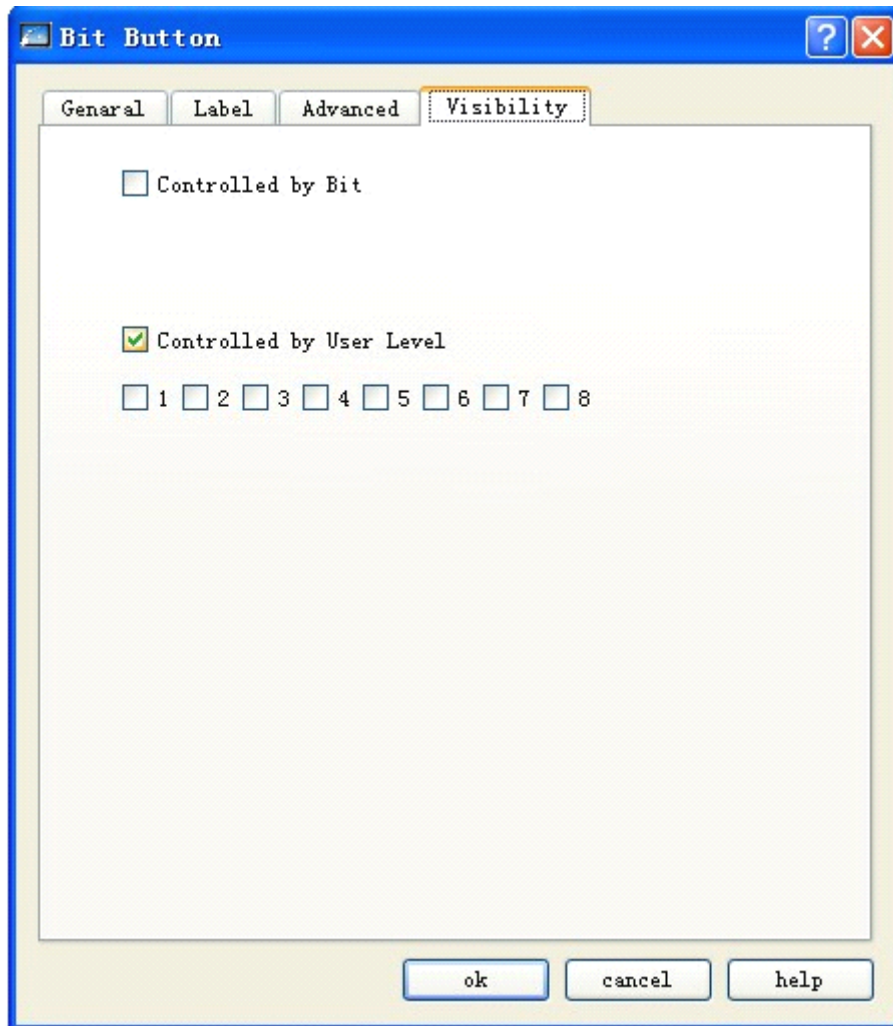

Figure 4-80: Visibility tab of bit button
- Visibility page will be displayed after you click Visibility tab. This page is mainly used to set whether to display or hide the control. See Figure 4-80